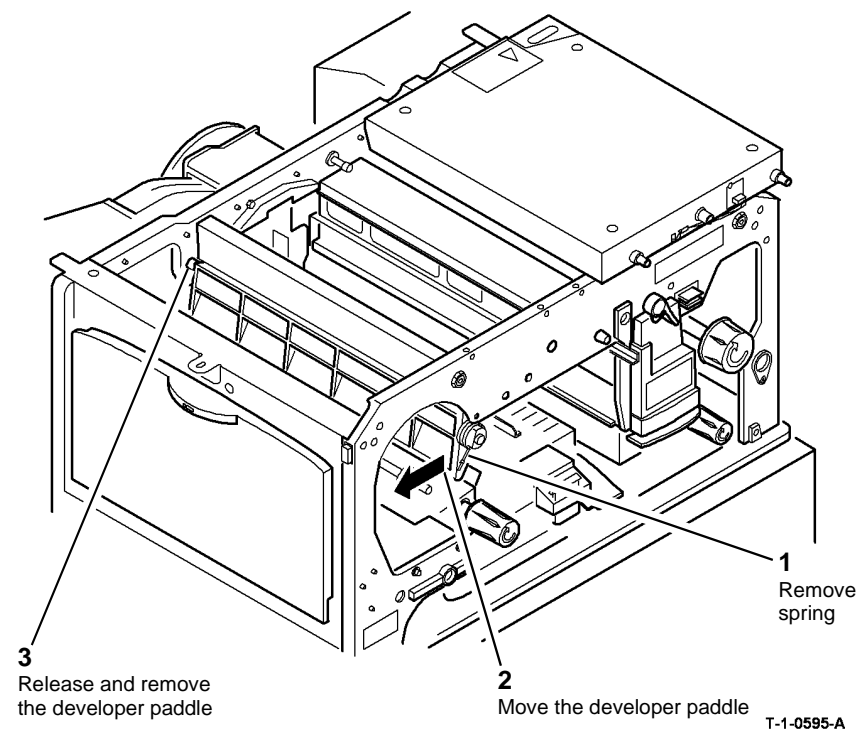

Figure 1 Developer paddle
2. Remove the developer paddle, Figure 1.